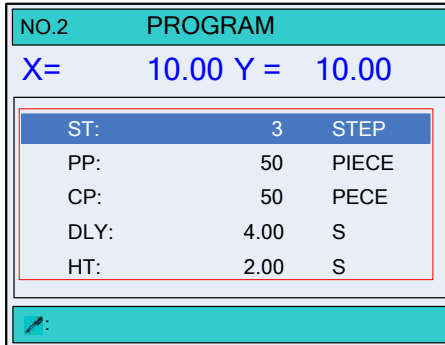

Figure 2-2 Mutiil-Step example configuration
- Step 4** According to the analysis, press the arrow keys and number keys to modify the corresponding parameters, as shown in Figure 2-2.